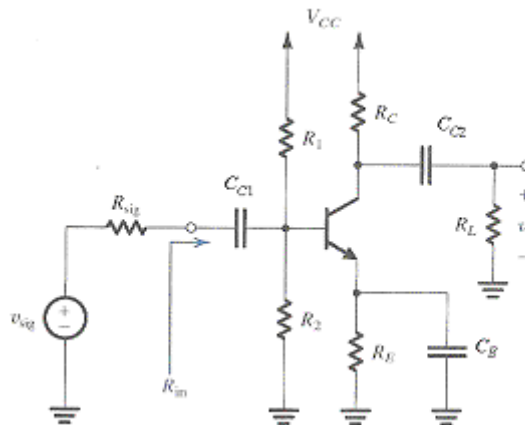

Figure 1 AC-Coupled Common-Emitter Amplifier
2. Use a comprehensive word processing application (such as WORD®) to assemble your report. All pages must have a printed header or footer (your choice) containing the CAD assignment number, student name, date and page number. All tables, schematics, graphs, and drawings must be captioned starting with Table 1, Figure 1, etc. Reference the page and figure caption for data presented on the summary page. Mark the location on any graph where data is taken for the summary page. Orient figures to give the largest possible presentation and do not place more than one figure on a page. Reverse the PSPICE graph background from black to white. The “by hand” calculations and figures may be handwritten but all other requirements must be satisfied. Use 8½” x 11” new unused printer paper for all PSPICE results and the “by hand” calculations and any associated required figures. Do not print or write on the back side of any page. “Portrait” pages must have the top aligned with the top of the stack. “Landscape” pages must have the top aligned with the left of the stack. Secure all pages with one staple in the far upper left corner of the stack. All material on each page should be visible. Work failing to conform to these specifications will not be accepted and a grade of “0” will be assigned. Late write-ups will not be accepted without good cause, e.g., documented medical problem, employer required travel.
This CAD exercise demonstrates the operation of a single-stage common-emitter amplifier using the circuit shown in Figure 1. For this amplifier use a Q2N3904 BJT and  $V_{CC} = 12$  volts,  $C_{C1} = C_{C2} = 1\mu\text{F}$ ,  $C_E = 50\mu\text{F}$ ,  $R_1 = 30\text{k}\Omega$ ,  $R_2 = 15\text{k}\Omega$ ,  $R_{sig} = 1\text{k}\Omega$ ,  $R_C = R_L = 2\text{k}\Omega$  and  $R_E = 1.5\text{k}\Omega$ .
Construct a test setup for the circuit shown in Figure 1.